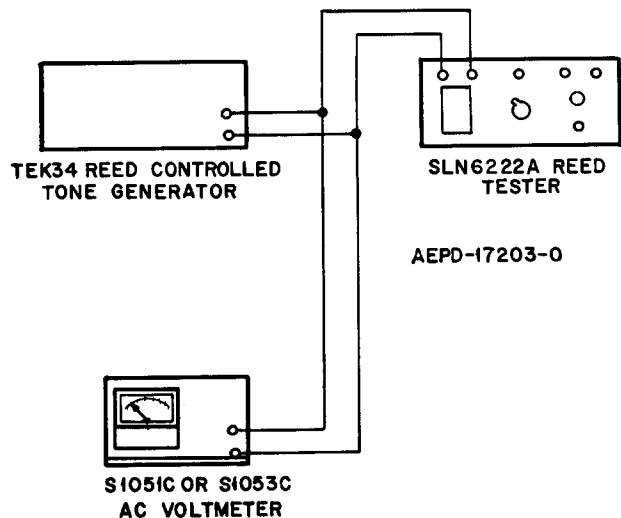
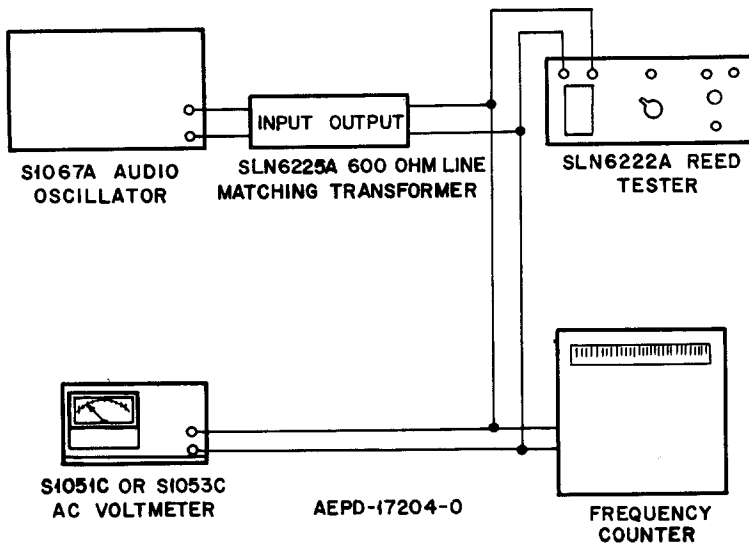
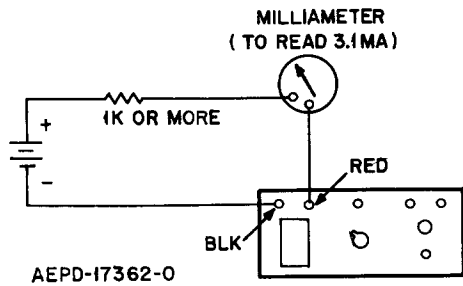

Figure 3. Test Set Up For Group 2 Reed
Figure 4. Alternate Test Set Up For Group 2 Reeds
Figure 5. Input Bias Circuit For Testing Model NLN6024A, Group 2 Reeds
Step 2. Connect the test equipment as shown in Figure 3 or Figure 4 (alternate set up). Use shielded cables to avoid hum pickup. For Model NLN6024A only, bias the INPUT terminals with 3.1 mA at any convenient battery voltage, as shown in Figure 5.
- Step 5. Set the audio oscillator (Figure 4) output voltage to the maximum threshold voltage indicated in Table 1. Set the oscillator frequency to the "Vibrasponder" resonant reed frequency by using the frequency counter set to 0.1 Hz resolution or 10 second count.